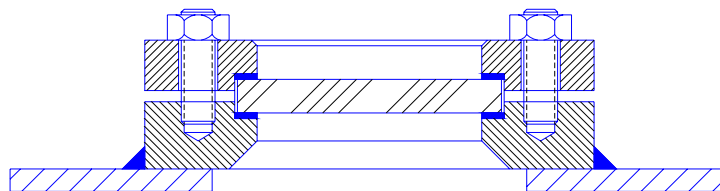

Figure 1
- a) Flat Vessel Wall with a Flat Weld Pad (Figure 1)